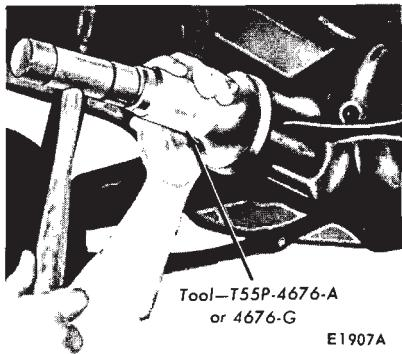

FIG. 12—Typical Drive Pinion Flange Seal Installation
9. Pinion oil seals have pre-applied oil resistant sealer. Install the seal in the retainer using the tool shown in Fig. 12.